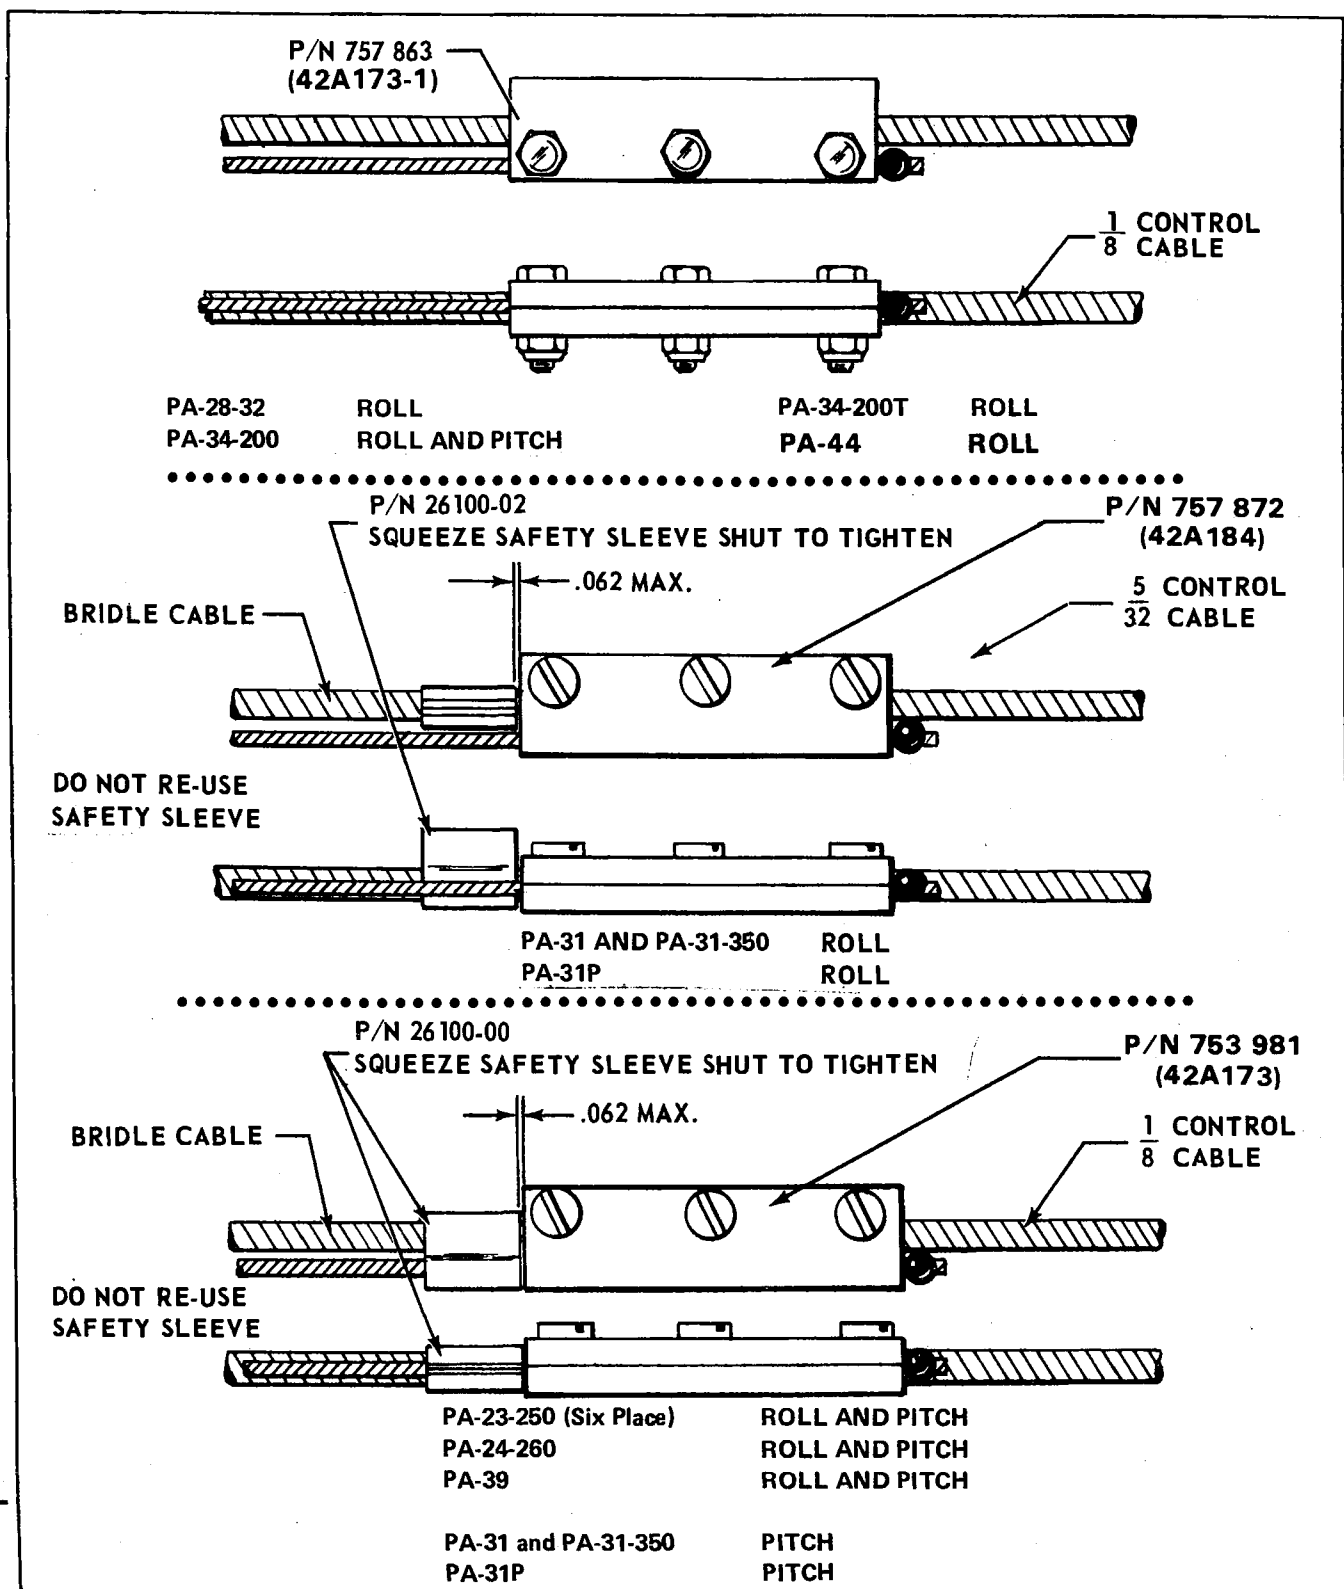

Figure 3-2. Safety Sleeve Installation
e. Whenever a safety sleeve (P/N 26100-02 for the PA-31, PA-31-350 and PA-31P roll servo installations or P/N 26100-00 for all other servo installations) is removed from a bridle cable installation, the sleeve MUST be discarded and replaced with a new one. The sleeve is installed as shown in Figure 3-2 with a maximum of .062 of an inch space between the bridle cable clamp and the safety sleeve. Installation of safety sleeve to be accomplished with "Water Pump" type pliers with a handle length no less than 6" or more than 8" to insure proper compression of the safety sleeve.